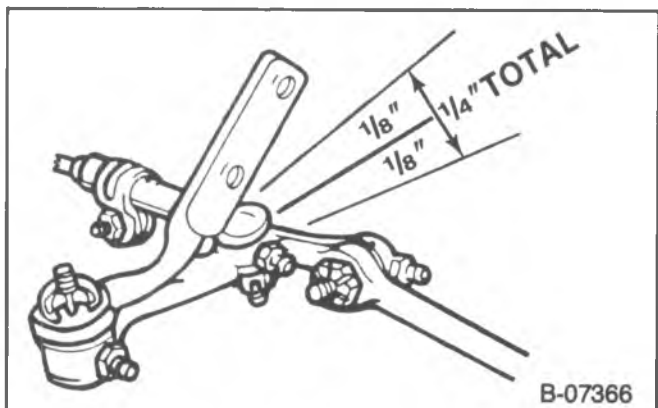

Figure 4—Checking Idler Arm Movement
Inspect (Figures 4 and 5)
2. Place a spring scale near the relay rod end of the idler arm. Exert a 110 N (25 lb.) force upward and then downward (G model the force is forward and rearward) while measuring the total distance the arm moves. The allowable deflection is $\pm 3.18\text{mm}$ ($1/8$ inch) for a total of 6.35mm ($1/4$ inch) (figures 4 and 5). Replace the idler arm if it fails this test with the exception of the P model motorhome. Refer to "Idler Arm Adjustment (P30(32) Motorhome)," in this section.